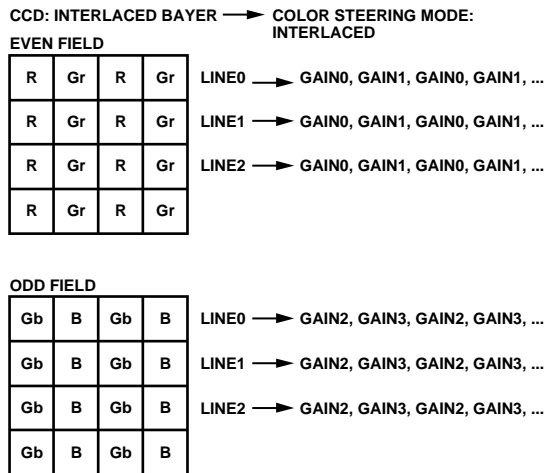

Figure 31. CCD Color Filter Example—Interlaced Readout
The same Bayer pattern can also be interlaced, and the interlaced mode should be used with this type of CCD (see Figure 31). The color steering performs the proper multiplexing of the R, G, and B gain values (loaded into the PxGA gain registers) and is synchronized by the user with vertical (VD) and horizontal (HD) sync pulses. For timing information, see Figure 34.